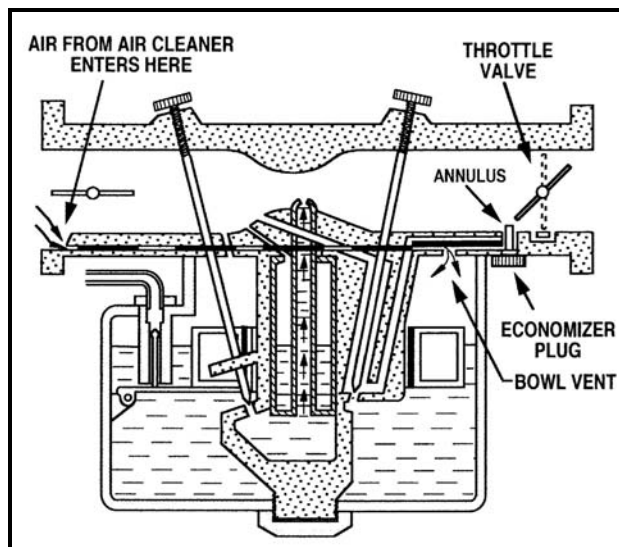

Figure 806 - Economizer System Diagram
4. Economizer System - A System of Pressure Differentials (Figures 806 & 807)